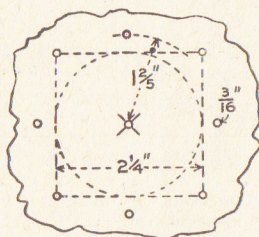

Fig. 2—The cardboard jig
The next thing to make is a jig of strong thin cardboard (see Fig. 2). Obtain a tin over 3 ins. high and not less than 3½ ins. in diameter. Cut the rim down to 3 ins. from the bottom of the tin. Find the centre of the base and puncture it with a fine nail. Put the mark (X) of the jig over the mark of the tin, plot the positions, cut out the square and drill the holes.